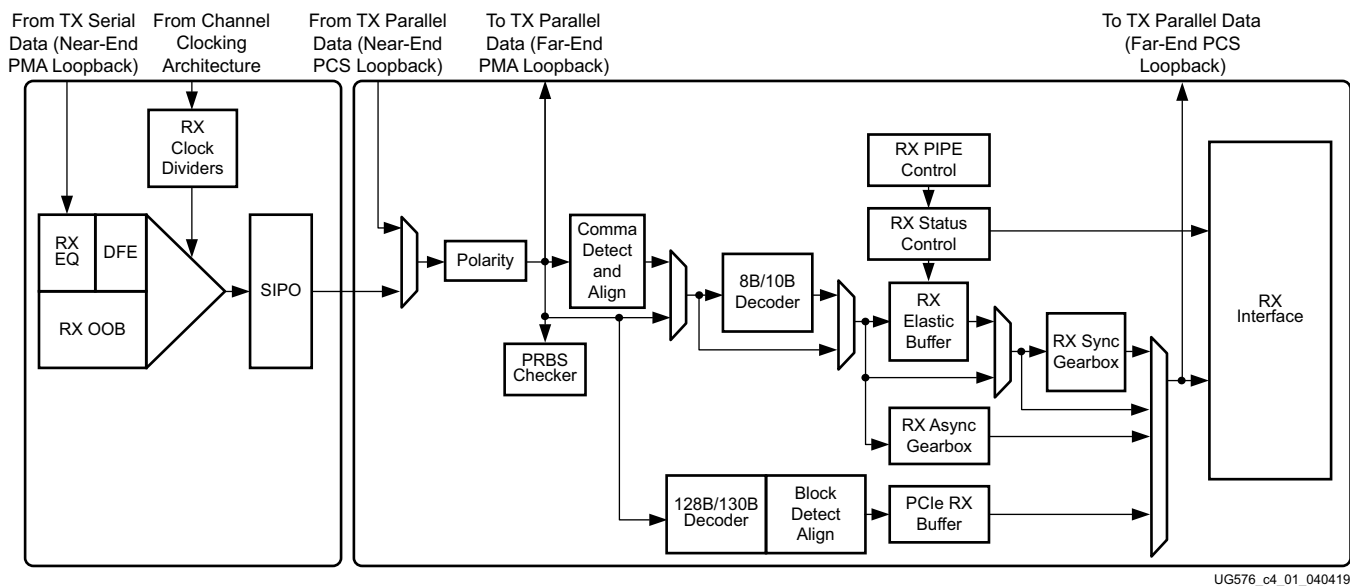

Figure 4-1: GTH Transceiver RX Block Diagram
This section shows how to configure and use each of the functional blocks inside the receiver (RX). Each GTH transceiver includes an independent receiver, made up of a PCS and a PMA. Figure 4-1 shows the blocks of the GTH transceiver RX. High-speed serial data flows from traces on the board into the PMA of the GTH transceiver RX, into the PCS, and finally into the interconnect logic. Refer to Figure 2-11, page 46 for the description of the channel clocking architecture, which provides clocks to the RX and TX clock dividers.